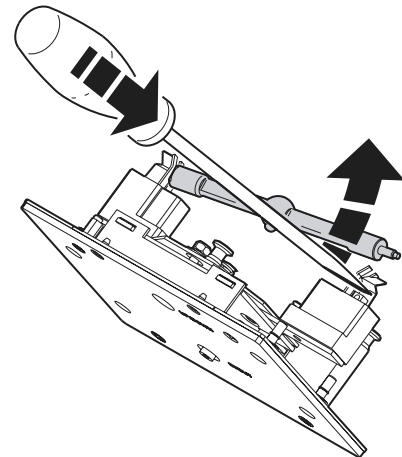

Figure 2: Lamp removal
- 3 Push down the retention spring on the right end of the socket and push out the pin. You can use a screwdriver to pry the lamp out of the socket as shown in Figure 2. Remove the lamp.